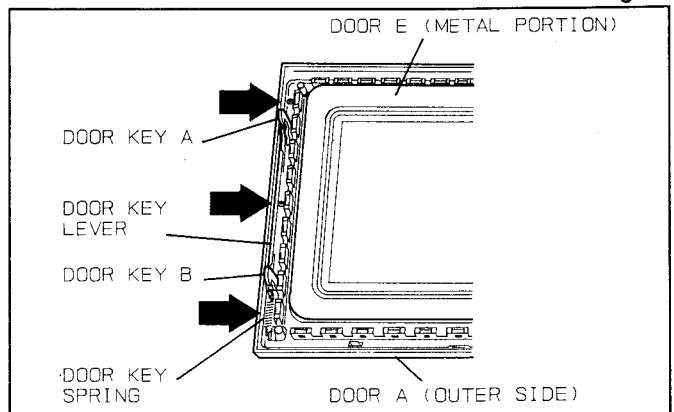

Fig. 22
(E) Remove door key spring and remove 3 screws holding door handle. (Fig. 22)
(G) Remove door keys, door key lever and handle pins from the door E. (Fig. 22)